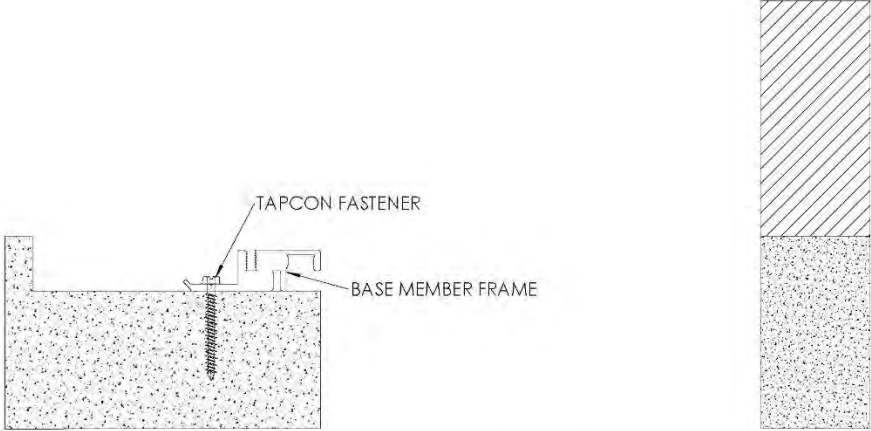

FIGURE 2
- 2. Position base member frame in blockout per shop drawings. Using the frame as a template, mark and drill 5/32” holes for Tapcon fasteners. Install base member frame to blockout opening with fasteners, making sure not to over tighten. **See Figure 2**